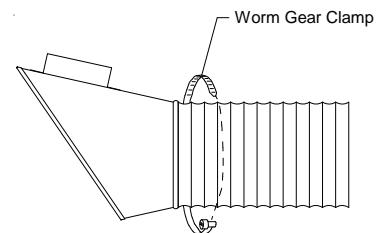

Fig. 3
4. Slip the end of the hose over the nozzle and secure it in place with the band clamp (supplied; fig 3).